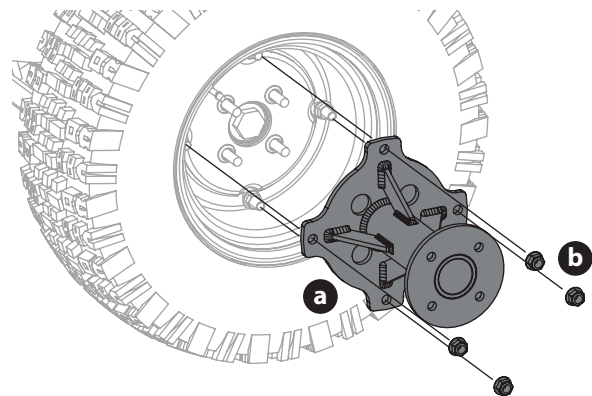

Figure 51
2. If necessary, remove the dual wheel adapter (a) by removing the four flange lock nuts (b) (Figure 51).